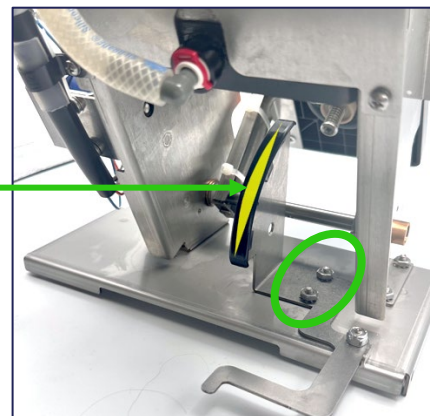

Fig. 5
5. Apply lubricant to cam slope in highlighted area (**Fig. 5**)